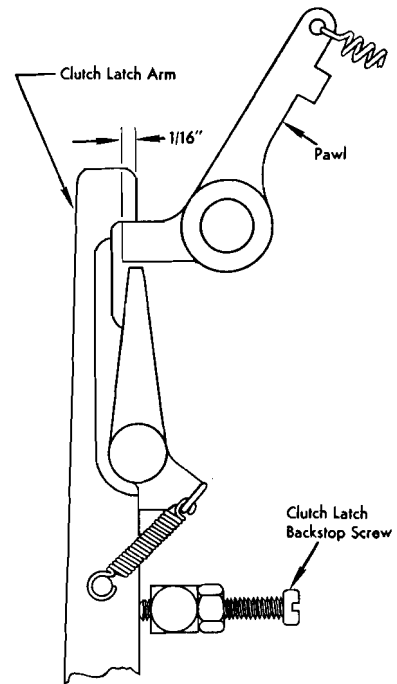

Figure 30. Clutch Adjustment
3. Set the clutch latch backstop screw for $\frac{1}{16}$ " overlap of the latch over the tail of the pawl (Figure 30).